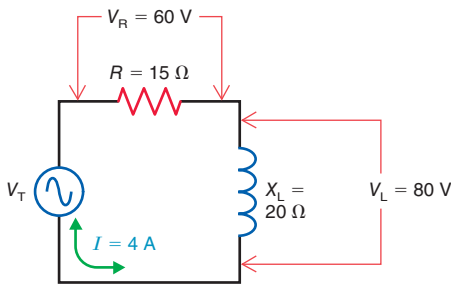

Figure 20-13
- 20.4** In Fig. 20-13, how much current, I , is flowing
- 20.5** In Fig. 20-13, what is the phase relationship between
- 20.6** In Fig. 20-13, how much is the applied voltage, V_T ?
- 20.7** Draw the phasor voltage triangle for the circuit in Fig. 20-13. (Use V_R as the reference phasor.)
20.22 In Fig. 20-13, calculate the real, reactive, and apparent power and power factor.